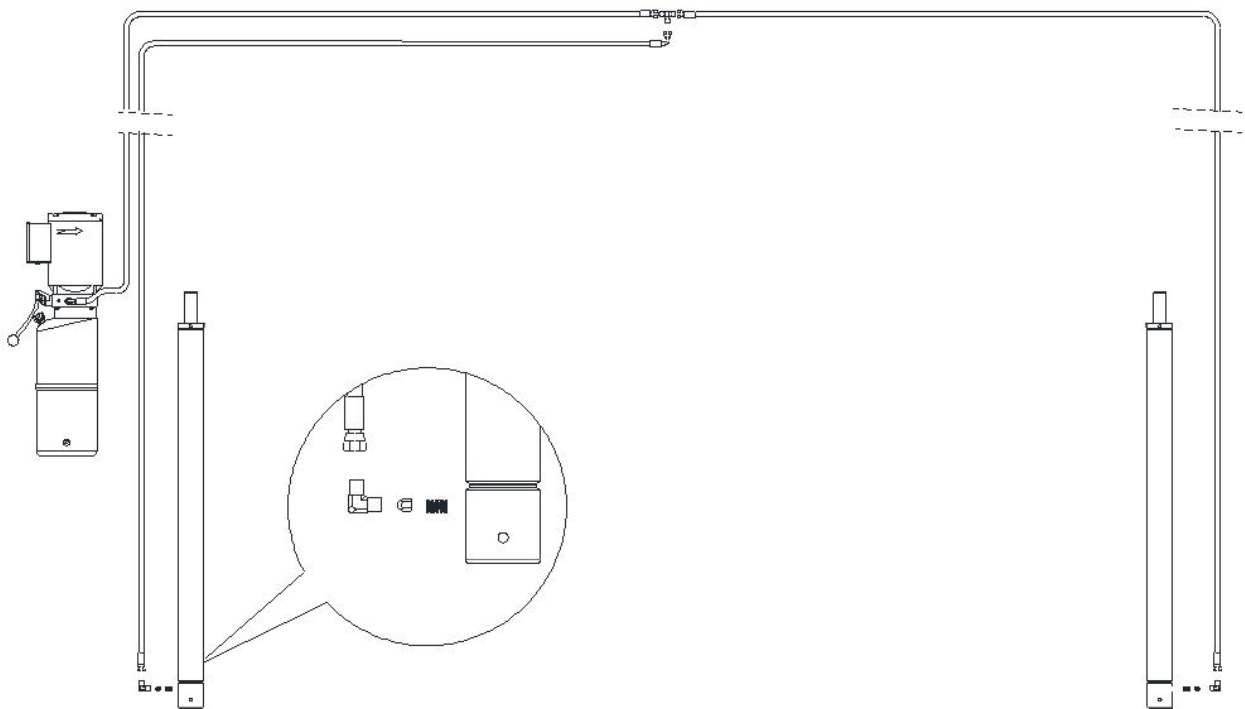

Figure 16 – Hydraulic Line Connection
- Route the hoses referring the figure 16;